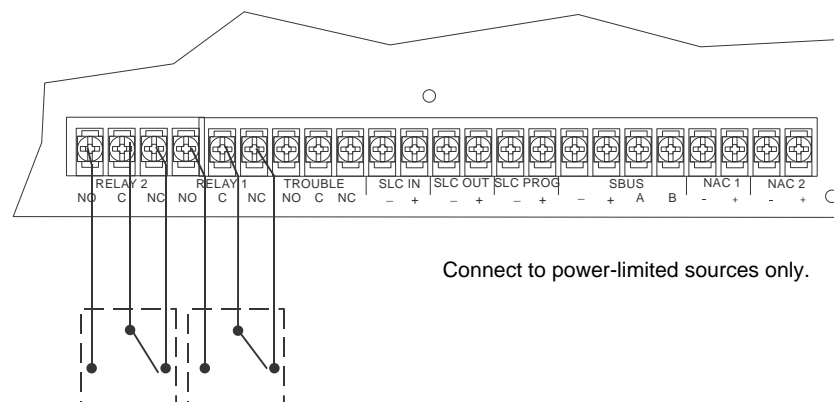

Figure 4.37 Location of Conventional Relay Circuits
1. Wire Relay 1 and/or Relay 2 as needed for your application. See Figure 4.37 for the location of the relay terminals.